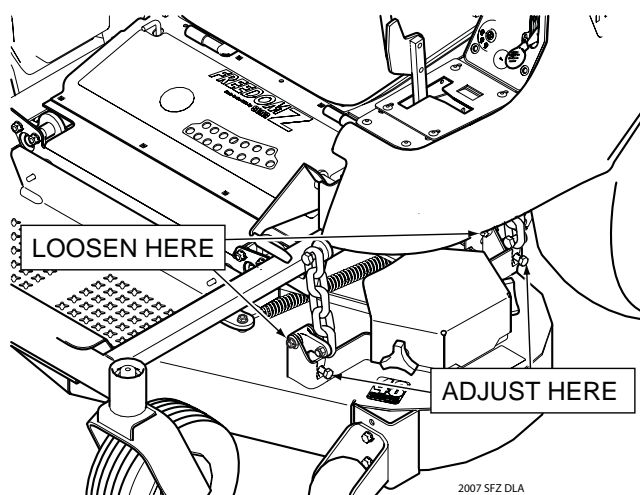

Figure 6-4. Cutter Deck Level Adjustment
1. If the cutter deck is lower on one side, loosen the elastic stop nuts securing the deck level links on the front and rear of the lower side. (See Figure 6-4).
2. Turn the adjustment bolts on the front and rear deck level link clockwise until the cutter deck is level between both sides. (See Figure 6-4)